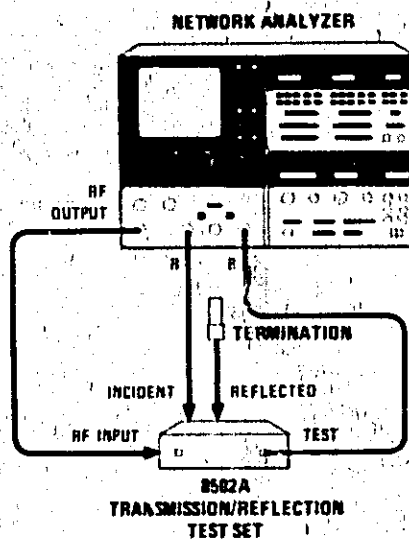
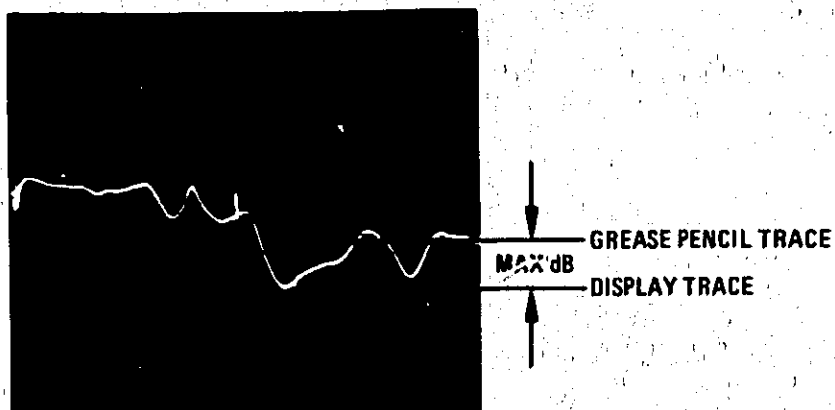
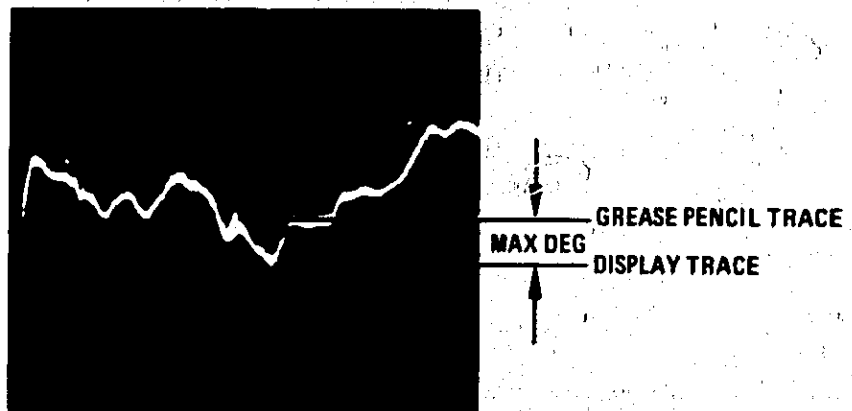

Figure 6. Transmission Frequency Response Test Setup
Figure 7. Transmission Frequency Response Magnitude
Figure 8. Transmission Frequency Response Phase
b. Connect equipment as shown in Figure 6, Configuration A.
- (1) On the 8505A Signal Processor Channel 1 press DISPLAY MKR and ZRO pushbuttons to place marker on reference line and to zero digital readout.
- (2) Grease pencil the trace on the CRT.
- f. To measure the transmission magnitude frequency response of the 8502A connect equipment as shown in Figure 6, Configuration B.
- (1) Set 8502A RF INPUT ATTENUATION control to zero dB.
- (2) On 8505A Signal Processor Channel 1 press REF OFFSET pushbuttons to center the display around the grease pencil magnitude trace.
- (3) Measure the maximum difference between the grease pencil trace and the display trace (Figure 7). This measured value should be ≤ 0.8 dB.
- g. To determine the phase frequency response of the Network Analyzer connect equipment as shown in Figure 6, Configuration A:
- (1) Remove CRT grease pencil traces from previous test.
- (2) Turn 8505A Signal Processor Channel 1 MODE switch to OFF and Channel 2 MODE switch to PHASE.
- (3) On the 8505A Signal Processor Electrical Length, press the LENGTH pushbuttons and adjust VERNIER B control to display a horizontal trace on the CRT.
- (4) Set 8505A Signal Processor Channel 2 SCALE/DIV switch to 2 DEG.
- (5) On the 8505A Signal Processor Channel 2 press DISPLAY MKR and ZRO pushbuttons to place marker on reference line and to zero digital readout.
- (6) Grease pencil the trace on the CRT.
- h. To measure the transmission phase frequency response of the 8502A connect equipment as shown in Figure 6, Configuration B:
- (1) Set 8505A Signal Processor Channel 2 SCALE/DIV switch to 90 DEG.
- (2) On 8505A Signal Processor Electrical Length, press the LENGTH pushbuttons and adjust VERNIER B control to display a horizontal trace on the CRT.
- (3) Set 8505A Signal Processor Channel 2 SCALE/DIV switch to 2 DEG and repeat step h (2).
- (4) On 8505A Signal Processor Channel 2 press MKR and ZRO pushbuttons.
- (5) On 8505A Signal Processor Channel 2 press the REF OFFSET pushbuttons to center the display around the grease pencil phase trace.
- (6) Measure the maximum difference between the grease pencil trace and the display trace (Figure 8). This measured value should be $< 8^\circ$.